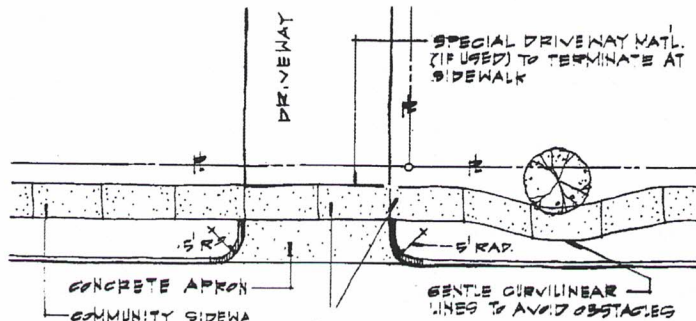

Figure 5
The driveway shall be constructed perpendicular to the street and shall be tied in to the street with a five (5) foot radius. The joint will be constructed in conformance to city or county standards and shall be doweled at the point of curvature. The minimum driveway width shall be at least twenty (20) feet to allow for adequate off-street parking (Figure 5).